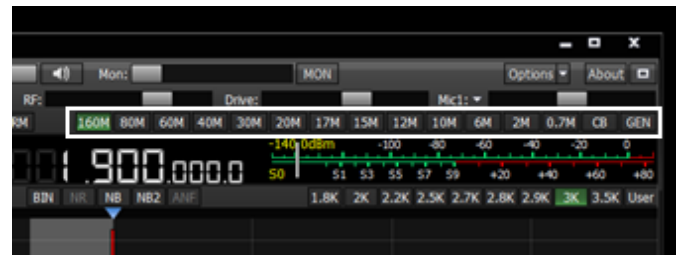

Figure 8.5 – Band choice buttons
- In the control panel showed below, in Figure 8.5, there are band switching buttons. There is also quick CB band opening button - “CB” button and possibility to open general coverage - “GEN” button.